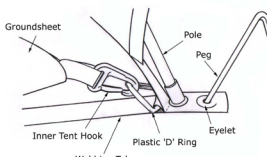

Figure 4
6. Before starting to put in the pegs, clip corners of the groundsheet to the plastic "D" rings at the base of the poles. (See figure 4).